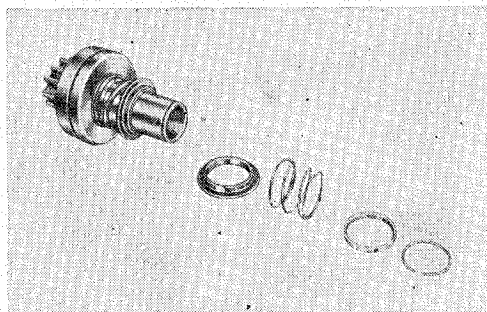

Fig. 91.
16. By compressing the rear spring remove the spring clip, the rear spring complete with thrust ring and the front part of the bracket ring of the idler (see Fig. 91).